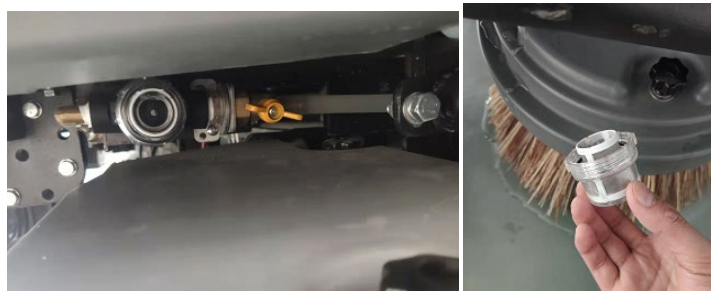

Fig. 12
3. The conduit filter screen is at the top of the back side brush on the left of the sweeper (on the left in front of the operator when he sits in the sweeper), unscrew the transparent cover counterclockwise, clean the filter screen, and install it clockwise (Fig. 12).